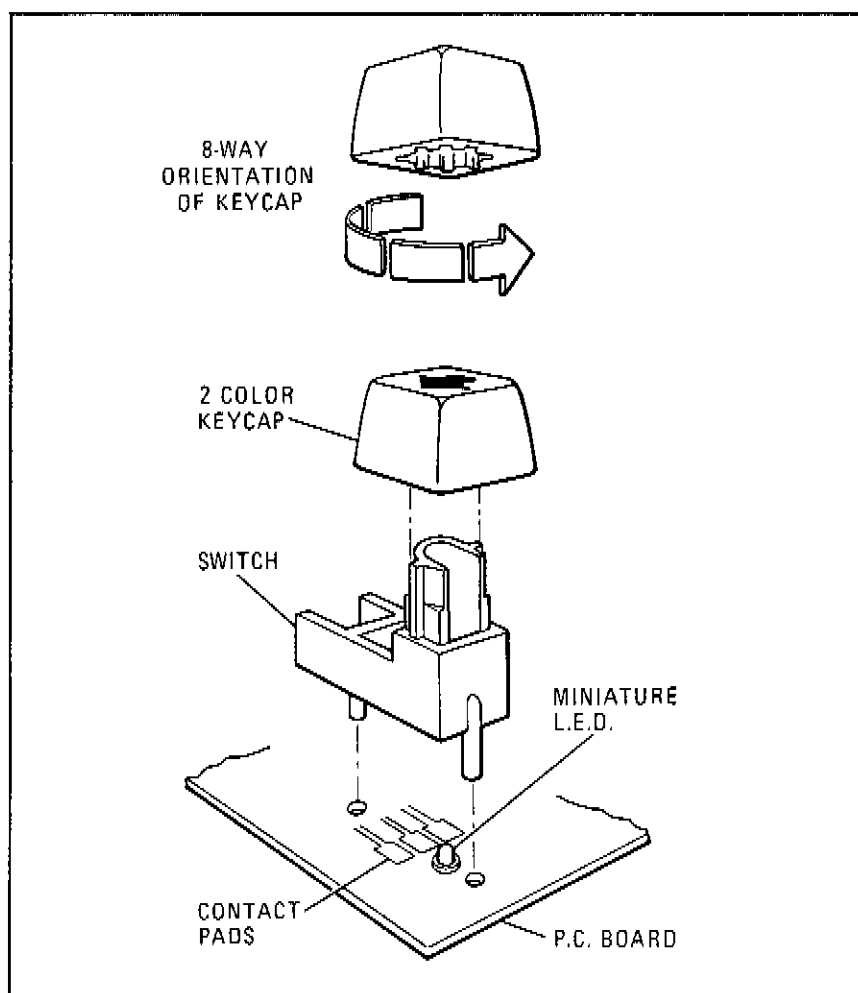

Figure 8F-1. Front-Panel Pushbutton Key Assembly
6. To assure proper switch assembly, verify that the switch is pushed firmly against the circuit board and, with the hot (440°C or 825°F) staking tip, push down on each of the posts (2) of the switch. Each post should take about one second to stake. With the proper cycle, the post should turn a darker color and, in about ten seconds, return to its original bright red color. The correctly staked post should have a smooth round "rivet" like top, as shown in Figure 8F-3.